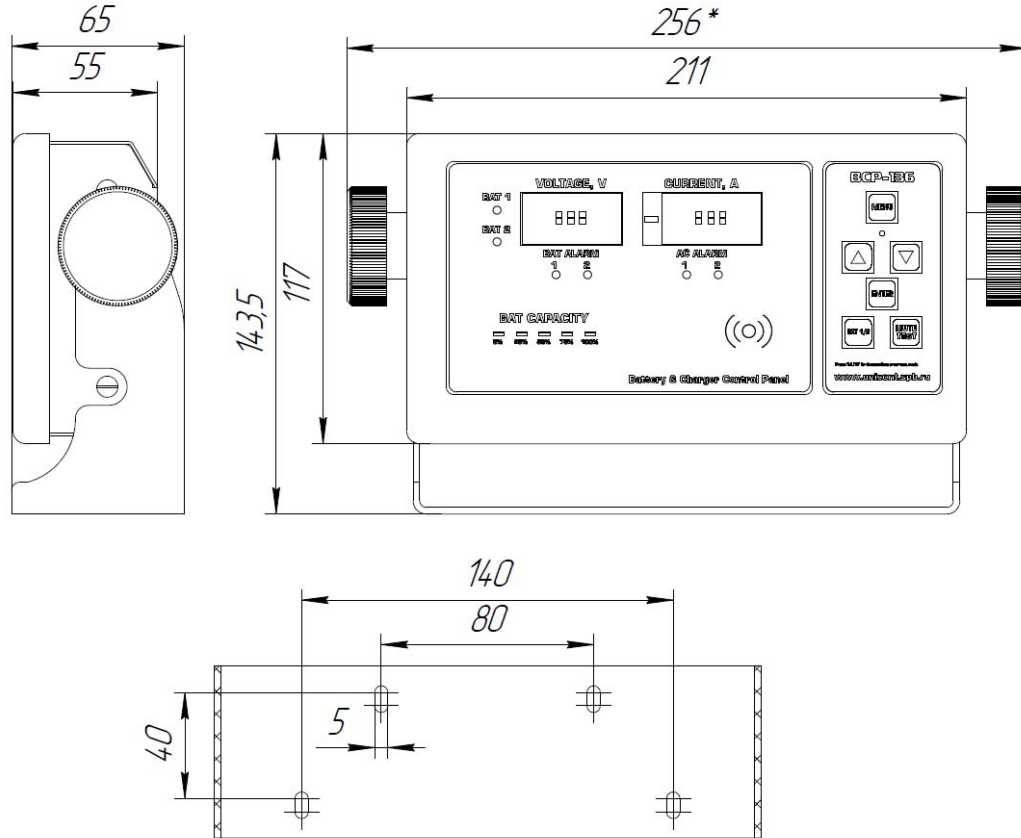

Fig. 3 BCP-136 overall and mounting dimensions for surface installation
- guidelines for desktop or bulkhead installation are shown in Fig. 3,